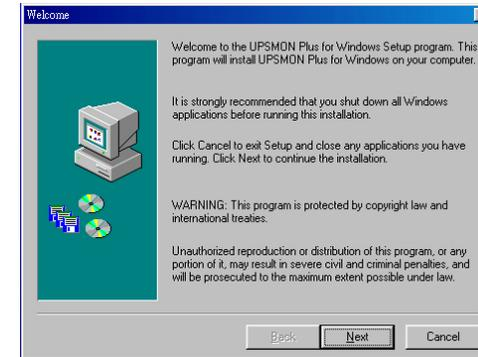

Fig 5.3
2. A windows labeled **Welcome** appears, please read and follow instruction written in the window and click “Next”. (see Fig 5.3)